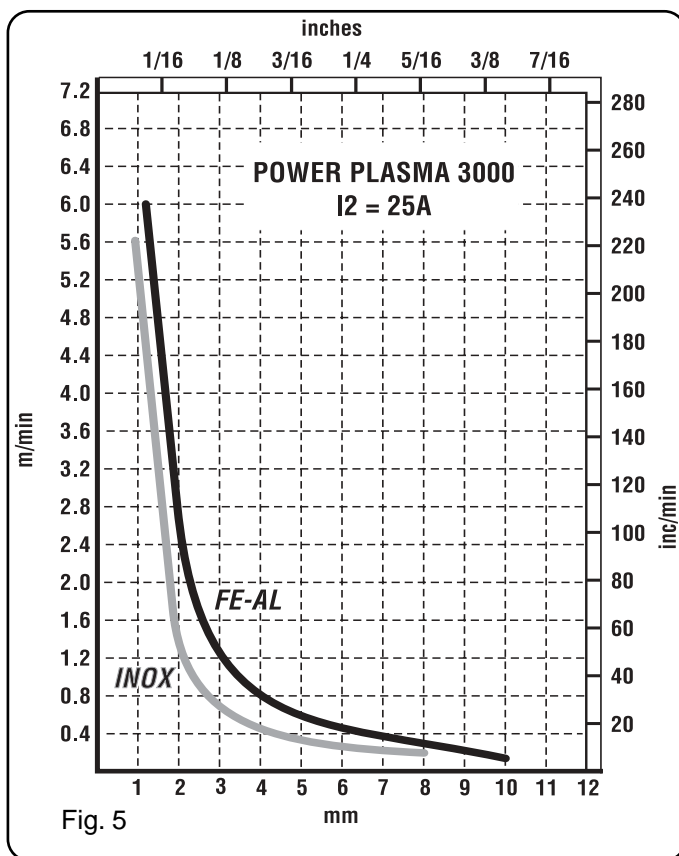

Fig. 5
- Excessively thick workpiece (see cutting speed diagrams, fig. 5).